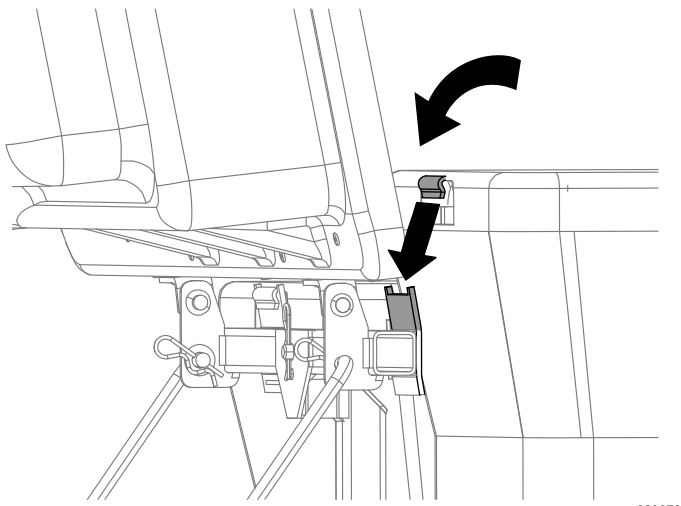

Figure 16
4. Lift the bagger top and install the bags by sliding the bag frame hooks onto the retaining brackets (Figure 16).